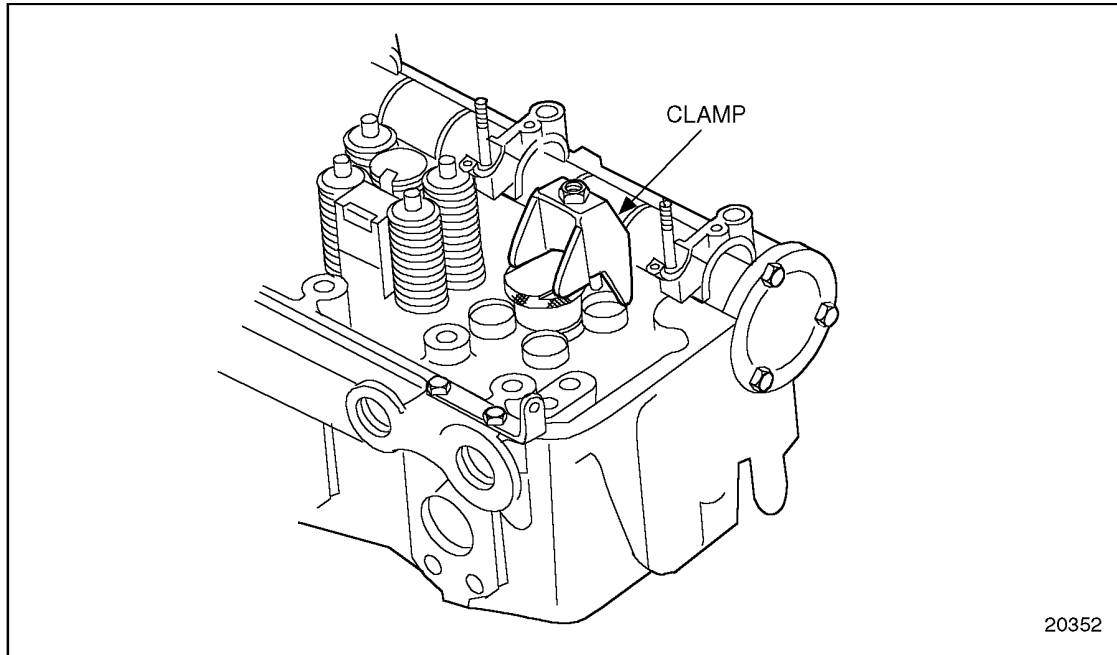

Figure 2-17 Installing Injector Hold-down Clamp
5. Install the EUI hold-down clamp and bolt it in place over the installation/removal tool. See Figure 2-17.